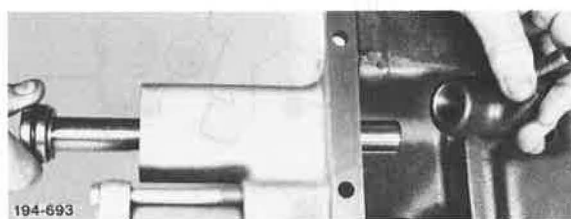

Figure 173. Removing Shift Rail and Shifter
5. Slide reverse shift rail rearward out of cover, and, as it moves, remove reverse shifter through bottom opening. See Figure 173.